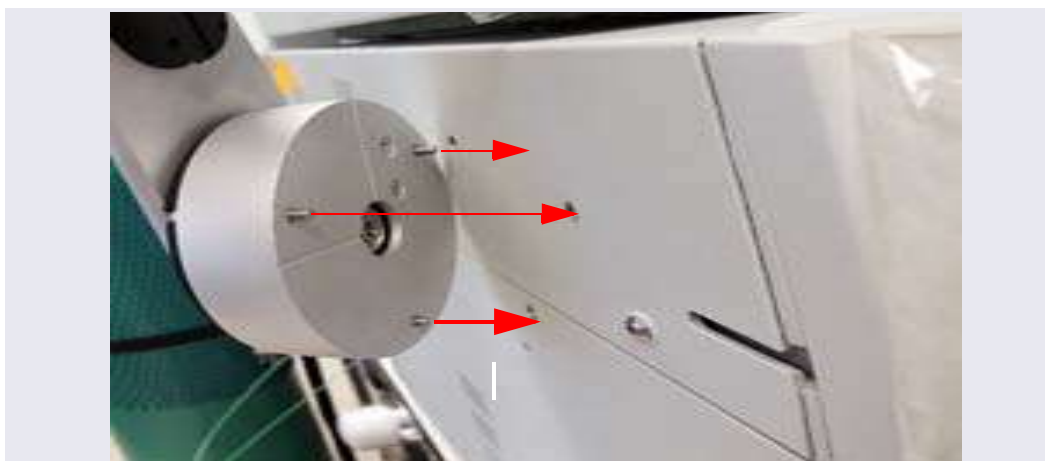

Figure 3-29. *Tablet Arm/Holder Mounting Screws on the DC*
- b. Align the three mounting screws on the base of the mounting arm with the three mounting holes on the side of the DC (see Figure 3-29).